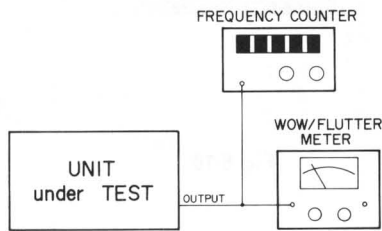

Fig. 5-11
1. Connect a frequency counter to either OUTPUT jack (see Fig. 5-11).
1. Connect a wow-and-flutter meter to the deck as shown in Fig. 5-11.